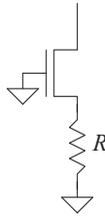

Figure 20.55 Resistance looking into the drain of a MOSFET with a source resistance. See Problem 20.16.
- 20.16** If the MOSFET in Fig. 20.55 is operating in the saturation region, determine the small-signal resistance looking into its drain.